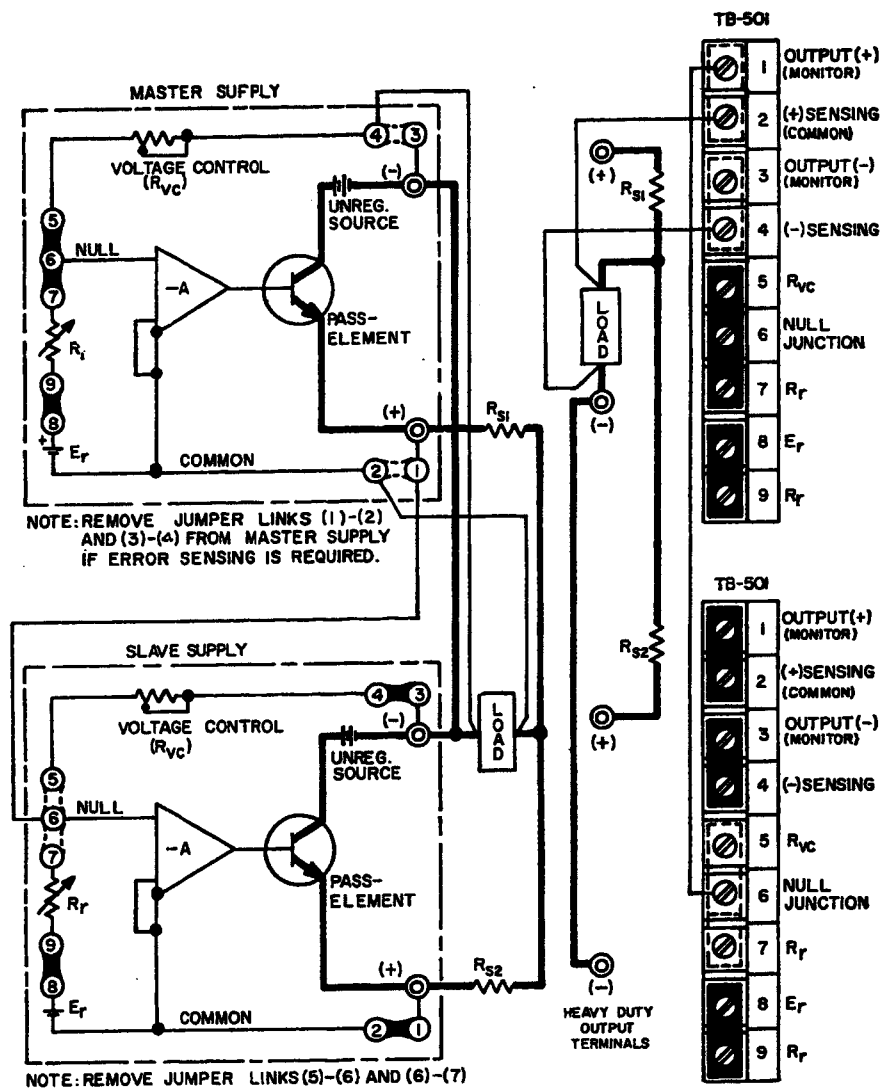

FIG. 3-14 MASTER SLAVE PARALLEL CONNECTION OF KEPKO POWER SUPPLIES
3-45 **MASTER/SLAVE PARALLEL CONNECTION.** Two power supplies are shown in FIG. 3-14, although more can be paralleled, each unit requiring its own sampling resistor. The sampling resistors (R_{S1} , R_{S2} in FIG. 3-14) are of equal value and are selected such that the voltage drop across them (due to the output current), plus the voltage drop in the load connection leads does never exceed 0.5 volts. If the voltage drop across the load connecting leads alone is at least 0.1 volt, the sensing resistors can be deleted since the leads provide the necessary sample voltage. For equal current sharing, however, the lead *length* and *diameter* should be the same for both power supplies. Output control is exercised from the "Master" supply.
3-46 **PROCEDURE FOR "MASTER/SLAVE" PARALLEL OPERATION** (See FIG. 3-14)
- 2) Make all load and sensing connections as shown in FIG. 3-14. The error sensing connections may be deleted if the minor voltage drop across the load wires (which subtracts from the available compliance voltage) can be tolerated.